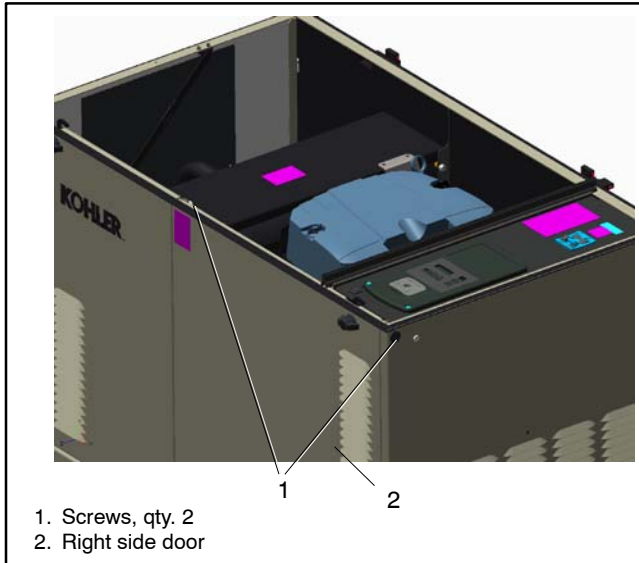

Figure 7-12 Right Side Door
- Remove the plug and two door screws. See Figure 7-12. Lift the service-side door up and off.